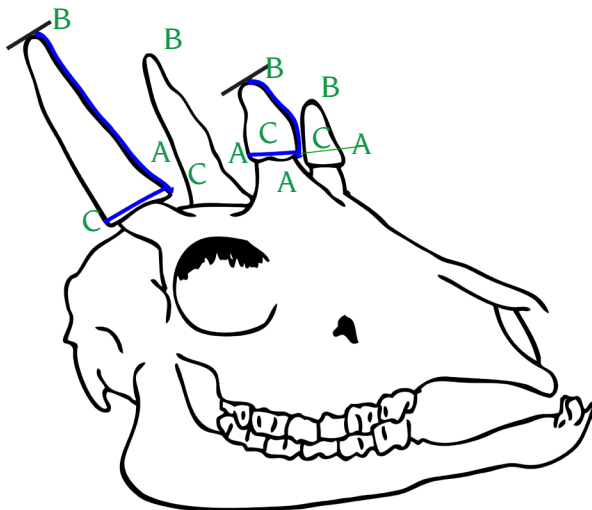

Figure 9 Four Horned Antelope
1. Length. Measure the length of the each horn on the front curve (in the center of the horn) from the lowest edge of the base to the tip. (Figure 9, A–B)
2. Circumference. Measure the circumference of the base of each horn. (Figure 9, C)